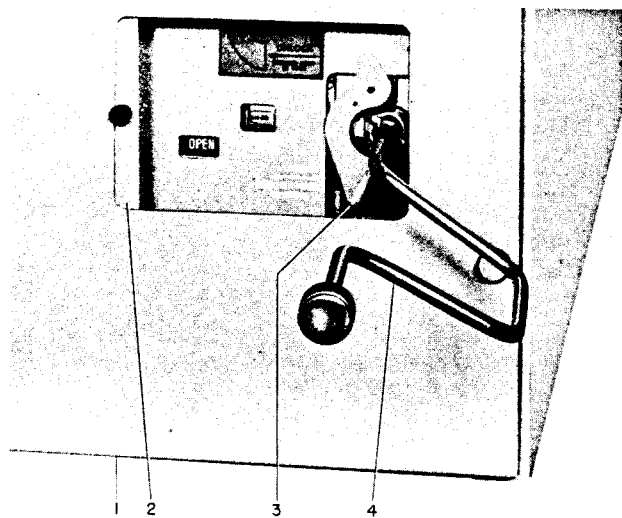

Fig. 5 — Method of Racking Circuit Breaker
Engage racking crank (4, Fig. 5) and push racking unlocking lever (3) to left, then rotate racking crank counterclockwise only until resistance to motion is felt. (DO NOT FORCE.) (If closing springs were left in charged condition, they will automatically discharge.)
To rack circuit breaker to "TEST" position, push racking unlocking lever (3, Fig. 5) to left, rotate racking crank approximately $\frac{1}{4}$ turn clockwise, then release unlocking lever. Continue cranking until racking mechanism automatically stops at "TEST" position.
FOR SAFETY: When racking circuit breaker to "CONNECTED" position, close compartment door (1, Fig. 5) and insert racking crank (4, Fig. 5) through sliding panel (2, Fig. 5).
(See Fig. 5)